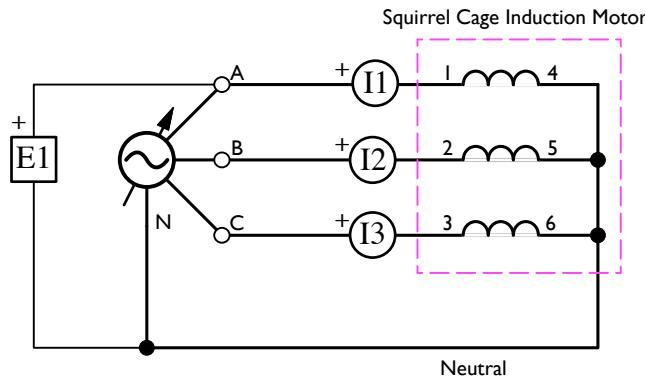

Figure 4.15: Three-Phase Motor – Three Phases
- 26. Remove the belt that couples the three-phase squirrel cage induction motor to the dynamometer, and construct the circuit shown in Figure 4.15.